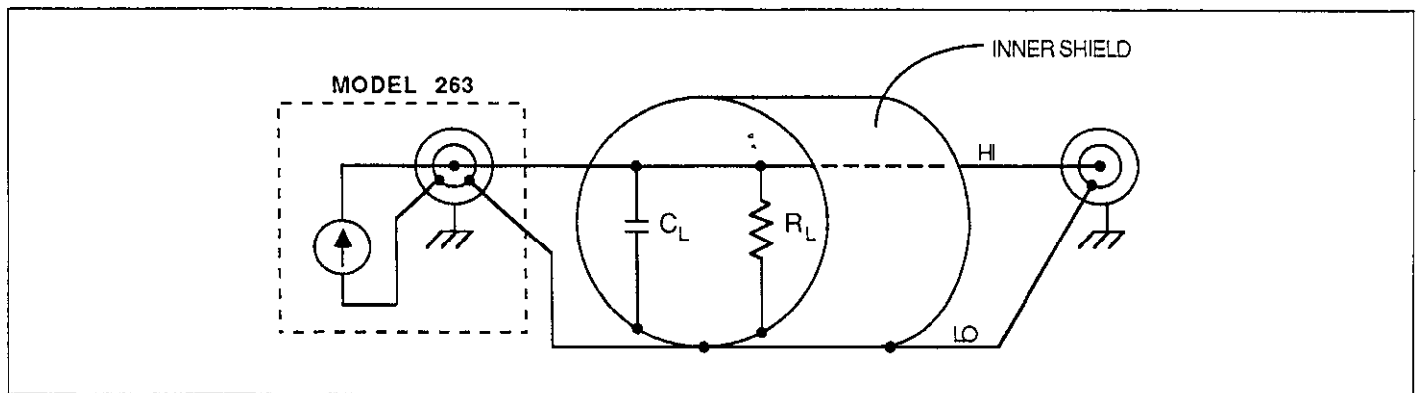

Figure 3-8. Unguarded Circuit
In general, the purpose of guarding is to eliminate leakage resistance and capacitance that exist between output high and output low. In the unguarded configuration (see Figure 3-8), leakage occurs between the center conductor (HI) and the inner shield (LO) of the output triax cable. This leakage (through  $R_i$  and  $C_i$ ) may be enough to adversely affect the output level and response time of the source.